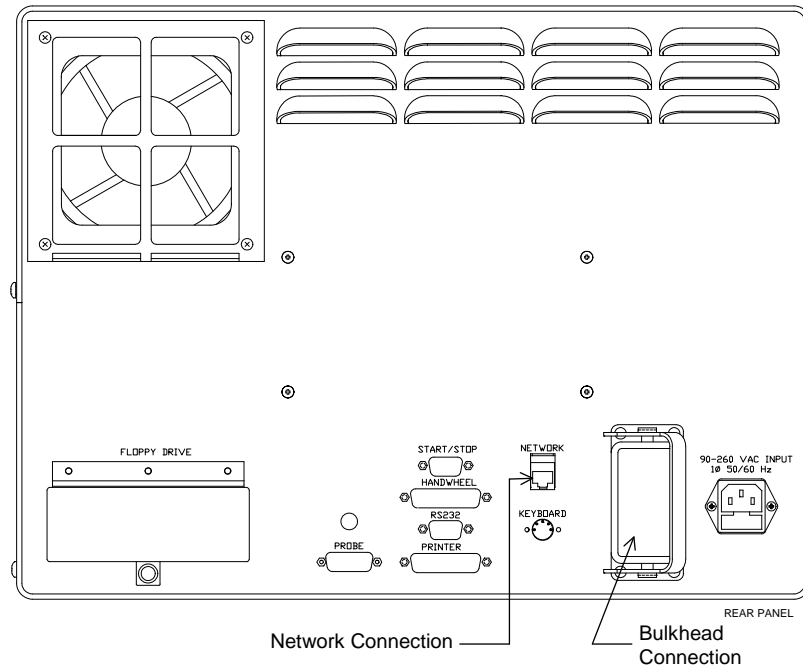
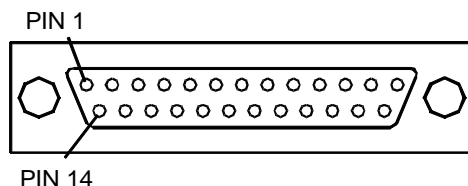

Figure 3-8, Console Rear Panel
Figure 3-12, Harness Handwheel Connector
1. Use a standard CAT5, RJ-45 cable for the network connection. Refer to **Figure 3-8**.
3. Plug the remote Start/Stop cable into the back of the console at the START/STOP connector. Refer to **Figure 3-8, Console Rear Panel**.
6. Plug the Handy Pulser cable into the back of the console at the Handwheel connector. Refer to **Figure 3-8, Console Rear Panel**. **Figure 3-12** illustrates the harness handwheel connector. **Table 3-4** shows the Handy Pulser connector pin assignment
- Connection (Refer to **Figure 3-12, Harness Handwheel Connector** and **Table 3-4, Handy Pulsar Connector Pin Assignment**):